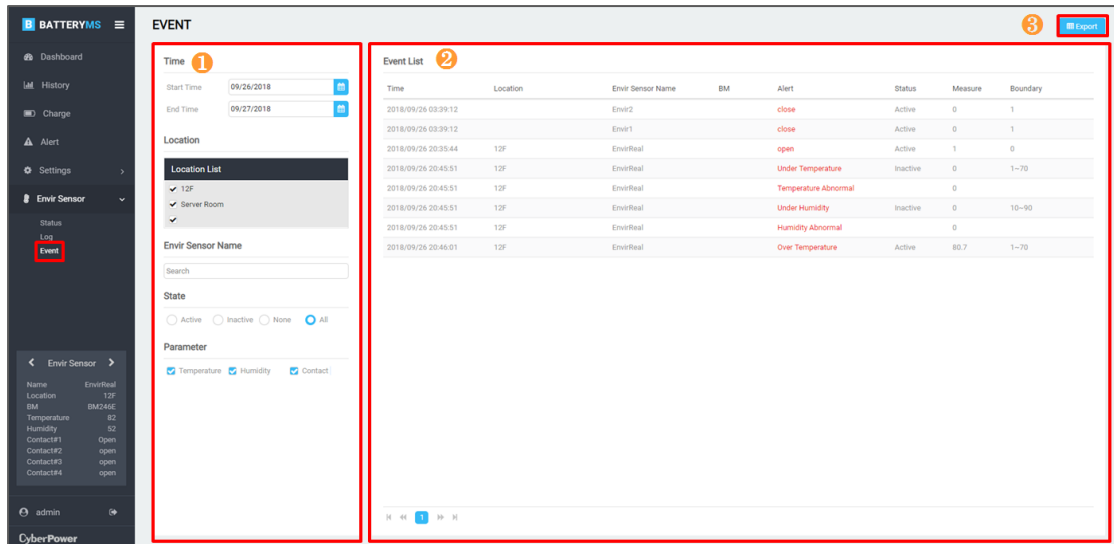

Figure 3.37 Environment event
On the Event page, there are three distinct areas. Alert event filter (1) in Figure 3.37) provides several conditions for filtering the alert events. Event List (2) in Figure 3.37) displays the events filtered according to the filtering conditions on the left side. After reviewing the event list, users can Export (3) in Figure 3.37) the alert events for further analysis.